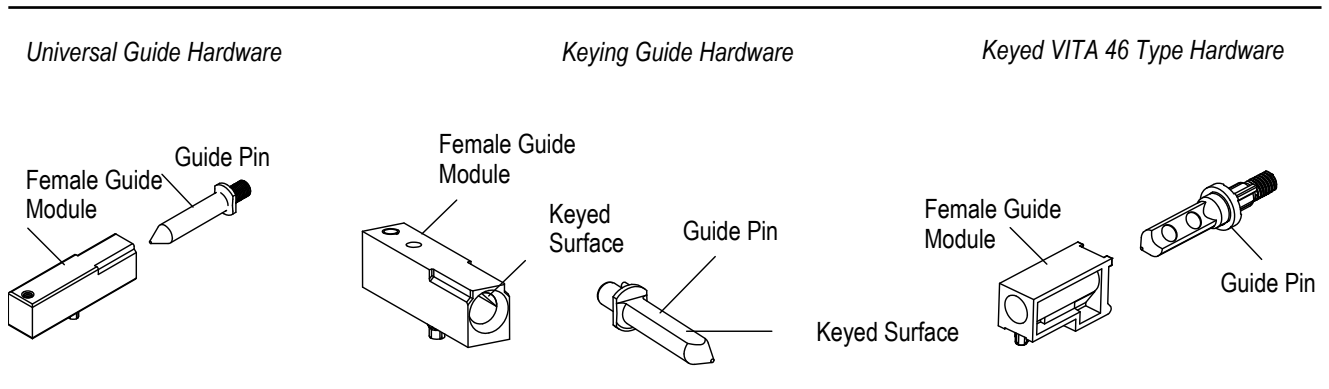

Figure 4
C. Guide Hardware (Figure 4)
The interaction of the guide pin and guide module provide error-free mating and prevents damage to the connectors. Guide hardware is recommended for multi-connector, large and heavy daughter card applications, and conditions where misalignment tolerances given in Section 3.7 cannot be met. Universal and keyed guide hardware are available for proper mating and allow up to ± 3 mm offset for blind mating. The guide hardware consists of a guide pin and guide module. The connectors require 2 guide pins (for the receptacle) and 2 guide modules (for the plug), which must be attached to the respective PWB. Refer to Figure 4.